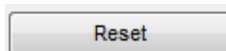

Figure 183: Reset
4. Press "Reset" (Figure 183) and "Download" (Figure 1) to reset all adjustments back to the default values.